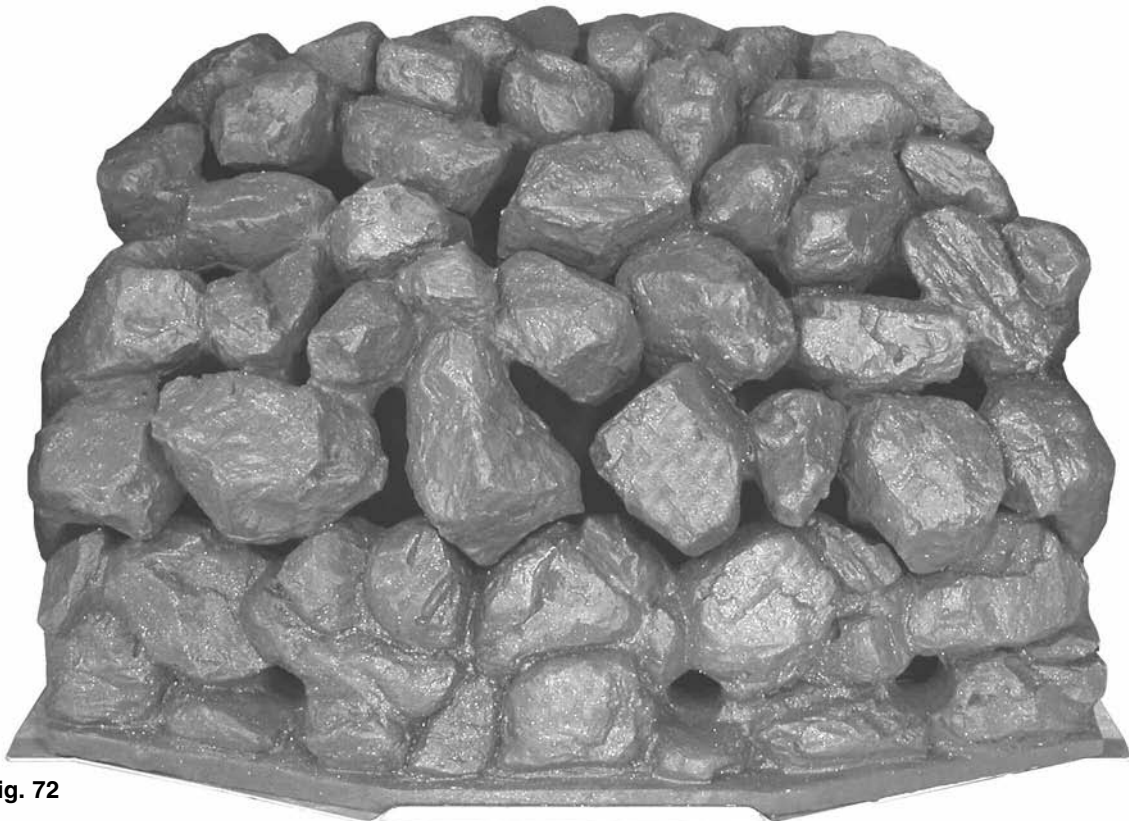

Fig. 72
5. Finally check that all the coal pieces are 'nested' together correctly (Fig. 72).